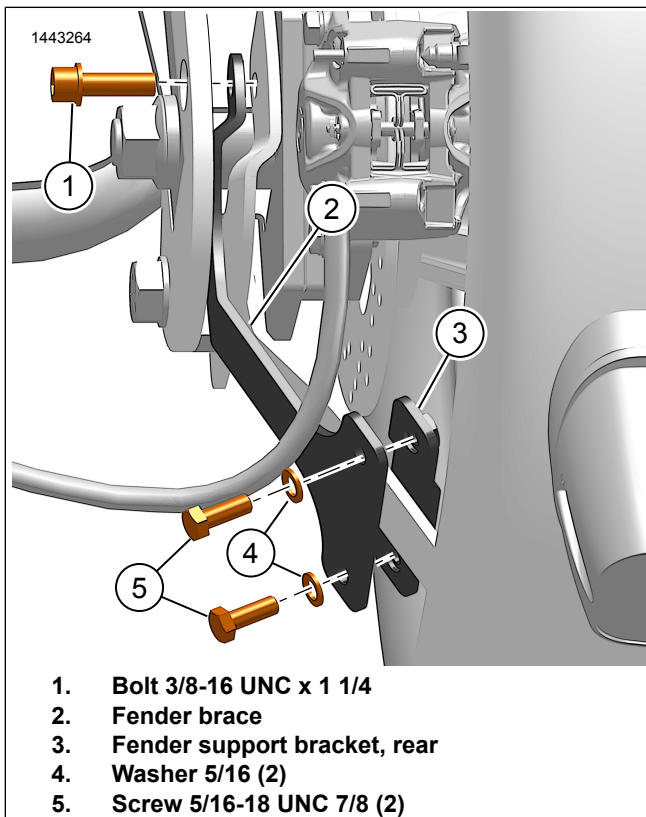

Figure 2-36. Fender Brace
1. See Figure 2-36. Install fender brace (2).
- a. Loosely install bolt (1).
- b. Install washers (4) on screws.
- c. Install screws (5).
- d. Install rear fender support bracket (3).
- e. Tighten bolt (1).